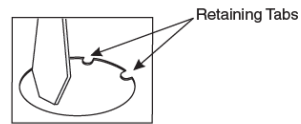

Figure 2
Place standard screwdriver on edge of circle (on opposite side from retaining tabs) and gently strike with hammer. Grip edge with pliers and flex back and forth until removed. **See Fig. 2.**
1. Remove Knock Out (KO) from Housing End Plate closest to Driver.
- To remove KO place standard screwdriver on edge of circle (on opposite side from retaining tabs) and gently strike with hammer. Grip edge with pliers and flex back and forth until removed. See Fig. 2 above.